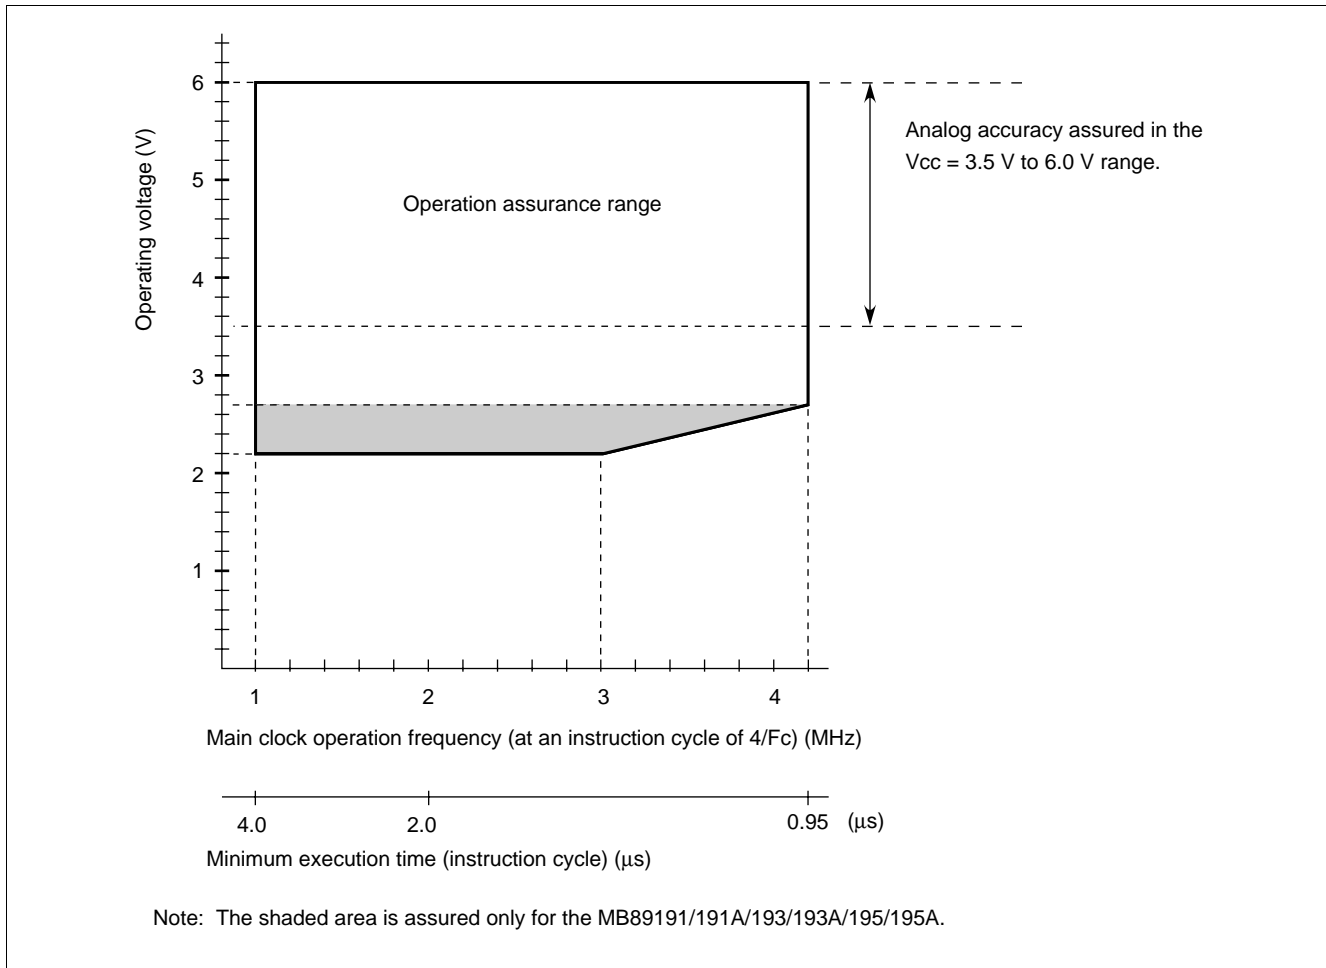

Figure 1 Operating Voltage vs. Main Clock Operating Frequency
*: These values vary with the operation frequency and the assured analog operation range. See Figure 1 and "5. A/D Converter Electrical Characteristics."
Figure 1 indicates the operating frequency of the external oscillator at an instruction cycle of 4/F_C.